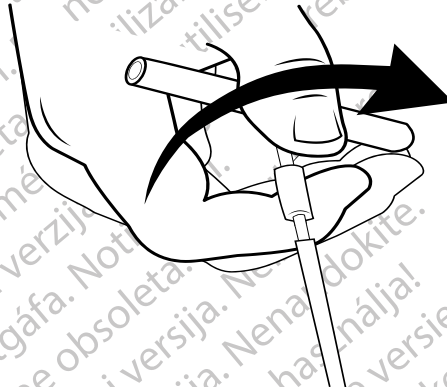

Figure 28. Removing the Handle of the Tunneling Tool
6. Once the tip of the Tunneling Tool is completely exposed, unscrew and remove the handle of the Tunneling Tool (Figure 28).